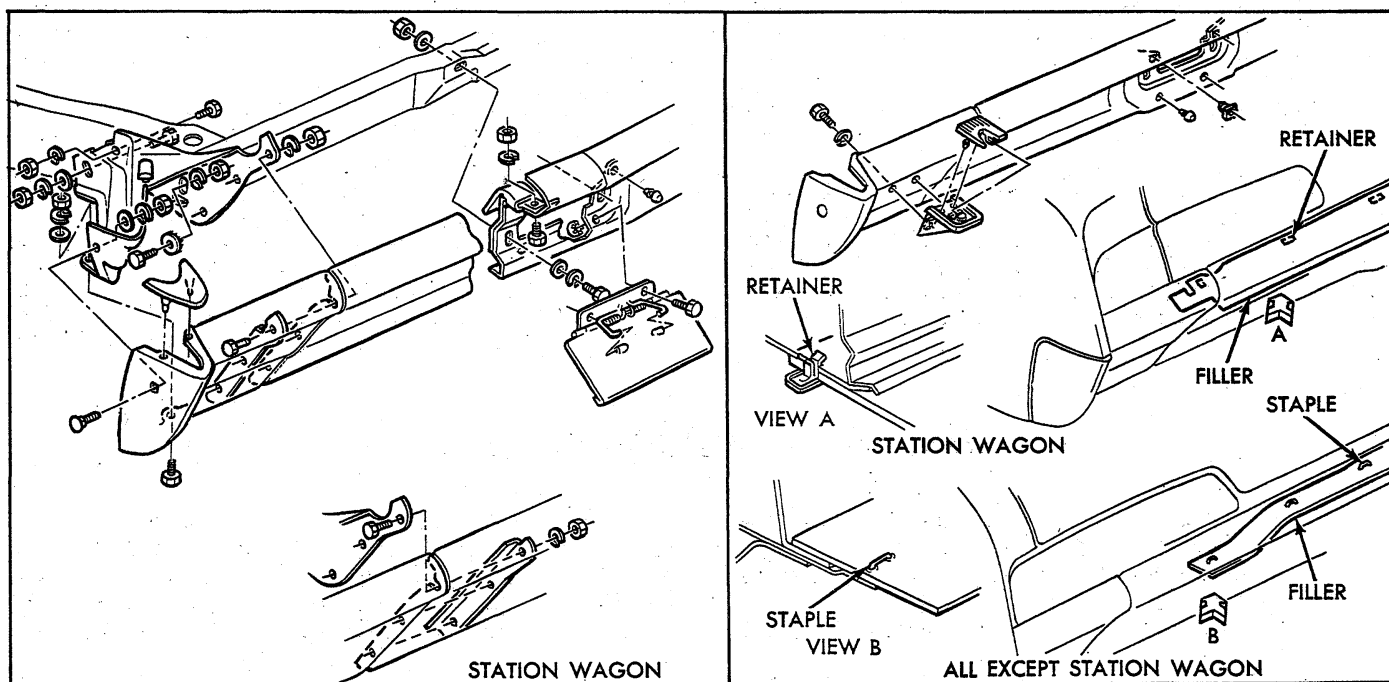

Fig. 2 - Rear Bumper Assembly - Chevrolet
REAR BUMPER ASSEMBLY (Fig. 2)
5. The license plate door (sedan models) and bumper pads (station wagon models) may be removed by removing the attaching parts shown in Figure 2.
2. Loosely install bolts, lock washers, and nuts including center face bar to frame bolts behind license plate door. Note that eight sided adjustment washers (fig. 2) are placed in the tab of each bumper mounting bracket. Dial the adjustment washers in the tabs as